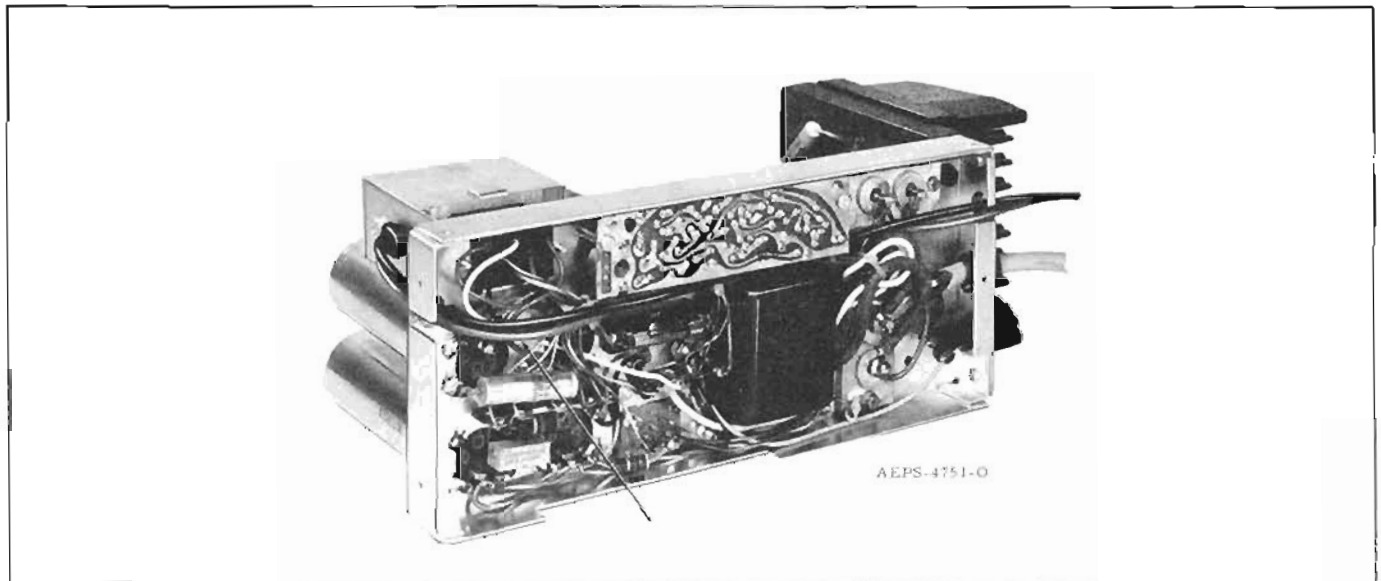

Figure 3. Battery Cable Installation
Step 10. Reroute the RED and BLK leads underneath the power supply as illustrated in Figure 3.